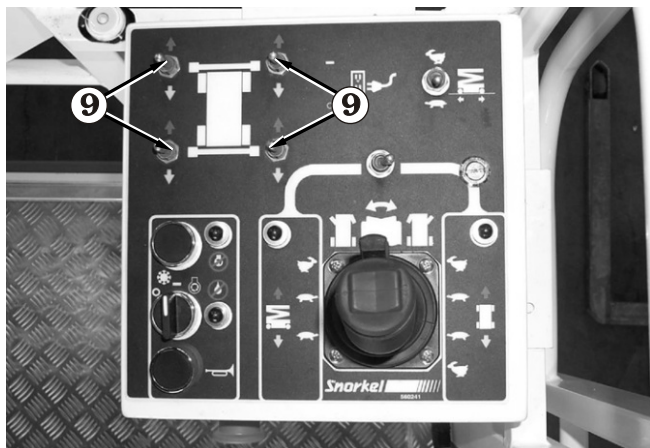

Figure 8.26
2. Push and hold the **Stabiliser** switches **9** forward until all the stabilisers are completely up (see Figure 8.26).